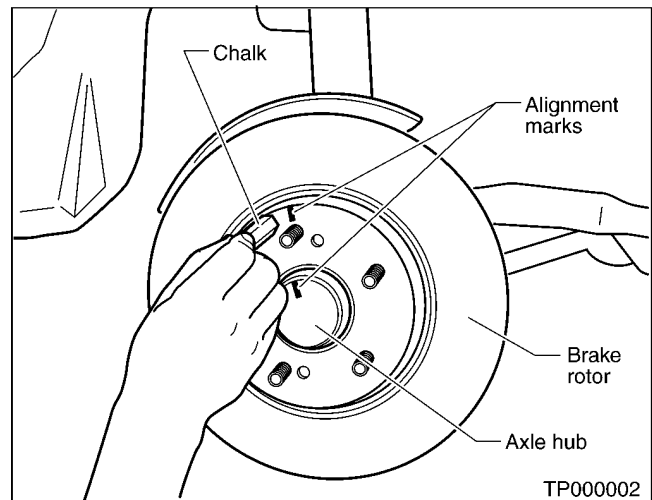

Figure 2
- If the rotor must be removed for any reason, mark the exact location (rotor to axle hub) before removing the rotor (see Figure 2).